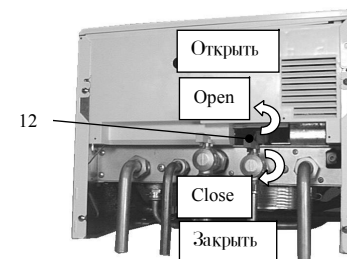
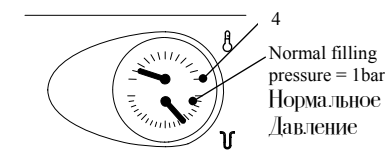

Fig. 2.1
Fig. 2.2
Ensure that the c.h. circuit is regularly filled with water (even if the boiler is only used for d.h.w. supply) checking that the pressure indicated on the temperature and pressure gauge 4 is not lower than that shown in Fig. 2.2.
If the pressure reading on the pressure gauge is below that shown in Fig. 2.2., then the system will require topping up. A filling loop is normally provided by the installer for this purpose.
- 2 Open the c.h. circuit filling valve 12 (Fig. 2.1) until the pressure reaches the normal filling pressure as shown in Fig. 2.2.